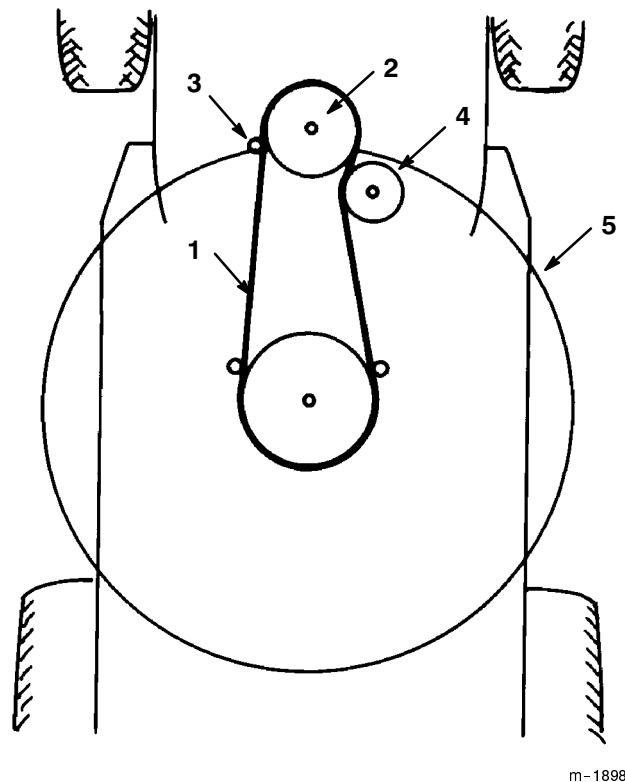

Figure 38
10. Remove the mower belt from the lower engine pulley (Fig. 38). If you are careful, you can flex the belt guide(s) just far enough away from the pulley to remove the belt. If it is too difficult to remove the belt, loosen the bolts and nuts securing the belt guides.
4. Install mower belt onto the lower engine pulley (Fig. 38). If you are careful, you can flex the belt guide(s) just far enough away from the pulley to install the belt. If it is too difficult to install the belt, loosen the bolts and nuts securing the belt guides.